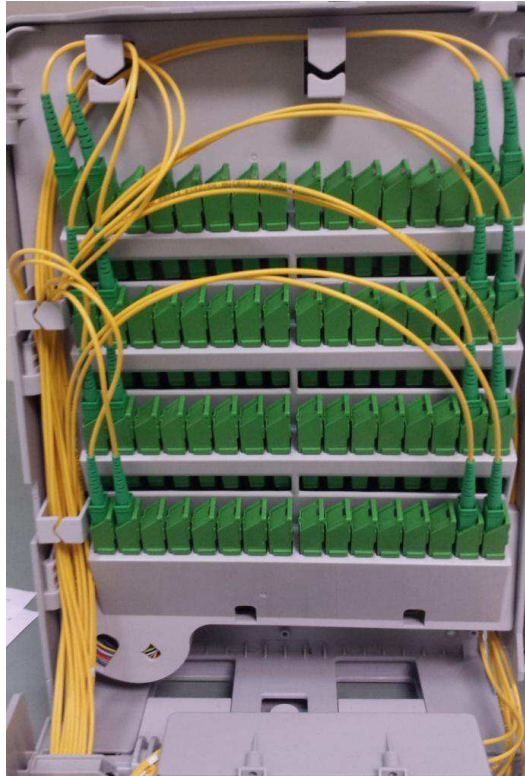

Figure 40
1.10.1 In order to activate a client, remove the adapter to be used and enter the desired position. Use the path indicated to perform the activation (Fig.40);